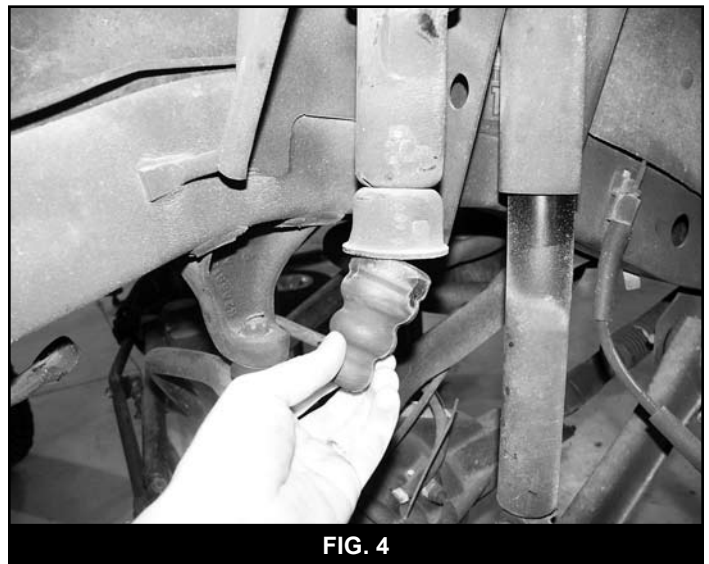

FIG. 4
15. Remove the OE rubber bump stop from the upper coil mount (Fig 4). Large pliers can be used to pull it out. Remove the OE bump stop retainer cup by remove the bolt from the center of the cup.